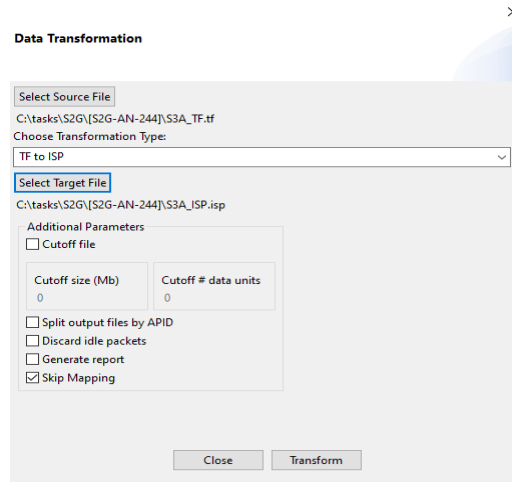

Figure 41: Transformation Dialogs
2. Select menu “Tools” → “Transform” (or click the “Transform” button in the toolbar), to show the transformation dialog (Figure 41). Depending on the type of file selected as source of transformation the dialog will request different transformation parameters.